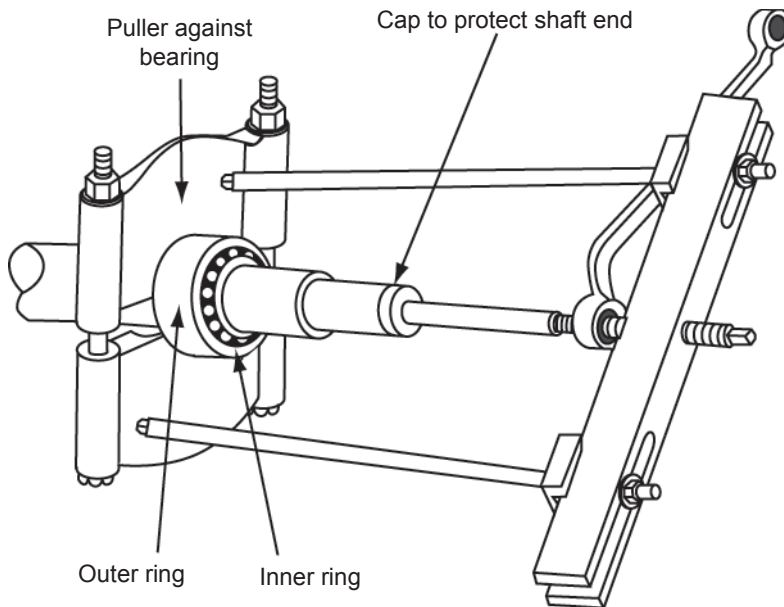

Figure 26: Pulling the bearing
2. Use a puller to remove the bearing from the shaft end with a cap. If the bearing is going to be used again, make sure the puller supplies pressure only against the bearing inner ring (see Figure 26).